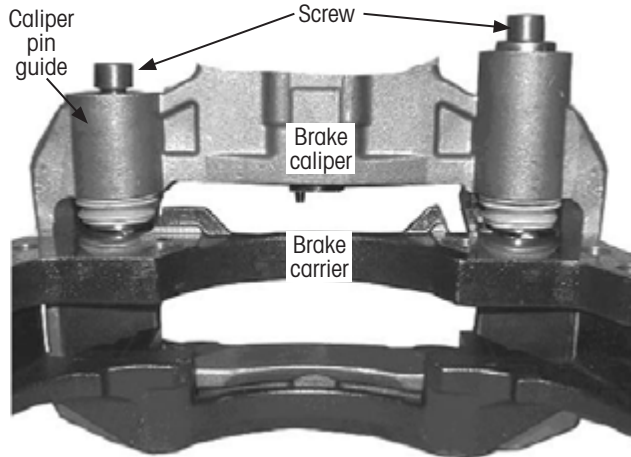

Figure 49: Removing guide pin screws
4. **Remove** guide pin screws (Figure 49). Refer to APPENDIX A: WRENCH SIZE AND TIGHTENING TORQUES on page 36, item IV.